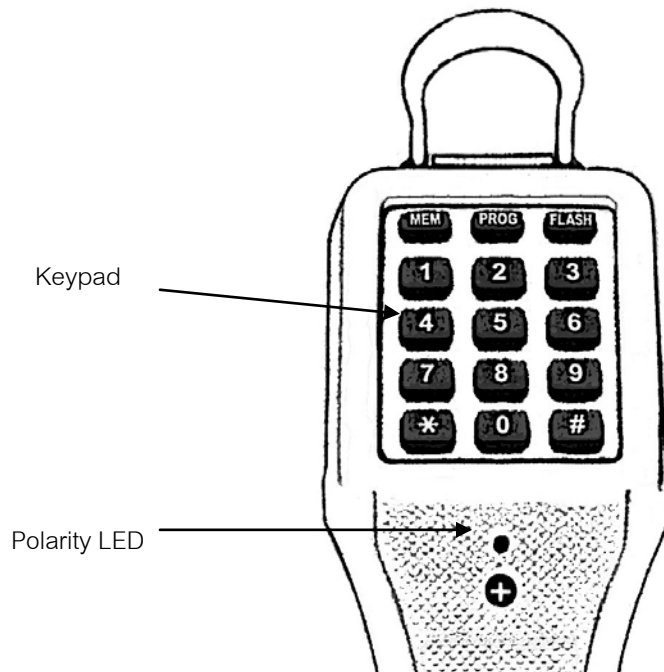

Figure 3.
4.2 Keypad Controls and indicator (Figure 3) :